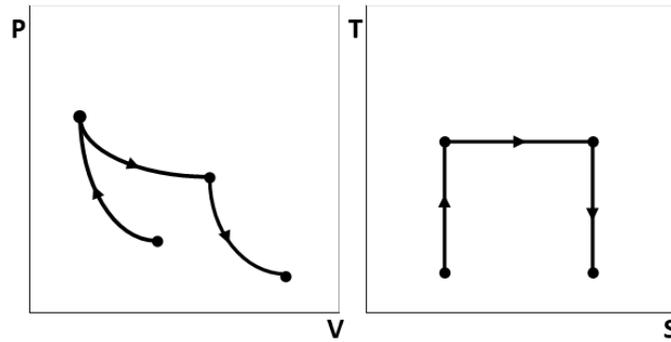

Fig.4.3: Stages 1-2-3-4 of the Carnot cycle
**3-4:** Fig.4.3 shows the isentropic expansion of the system, as with stage 1-2,  $\Delta Q = \Delta S = 0$ .